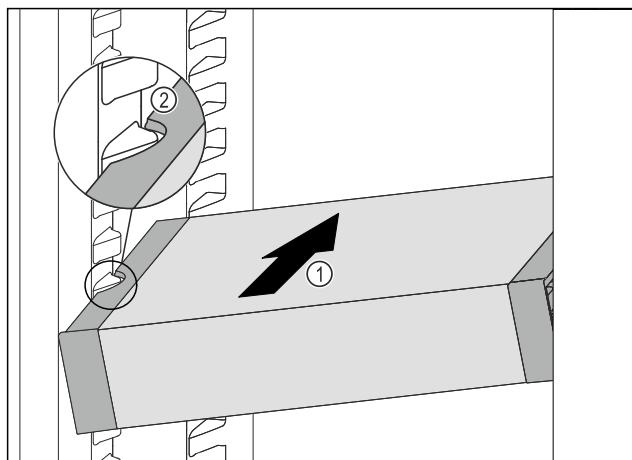

Fig. 92
- Insert the VarioSafe into the fridge section at an angle Fig. 92 (1) until the recesses in the side Fig. 92 (2) of the VarioSafe are at the level of the support rib in the fridge section.